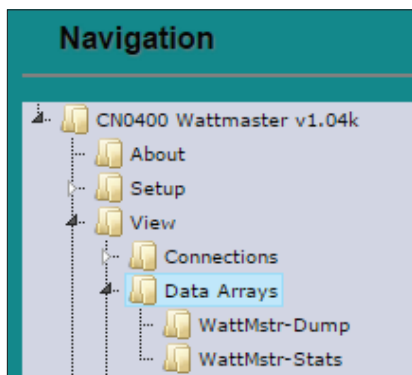

Figure 19: Navigation Window - View Data Arrays
2. In the *Navigation Window* on the left of the *FS-GUI Main Screen*, click **<View>** and then click **<Data Arrays>**. See **Figure 19**.